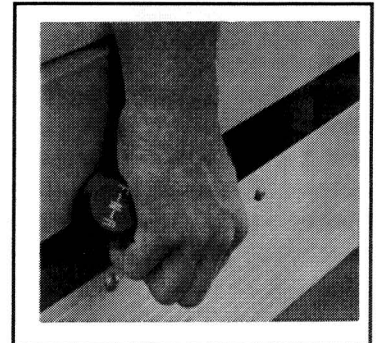

Figure 3
**Forward - Reverse Control** - The forward reverse shift lever is located below and to the right of the driver's knee on the seat support panel (See Figure 3). The lever has three (3) distinct positions: F (forward), N (neutral), and R (reverse). Rotate the lever toward the driver (F) the run vehicle in forward and toward the passenger (R) to run vehicle in reverse. When the lever is in the straight up or neutral position, the vehicle will not run, and the engine will stop if shifted to this position while running. The electric vehicle operates at half speed in reverse.